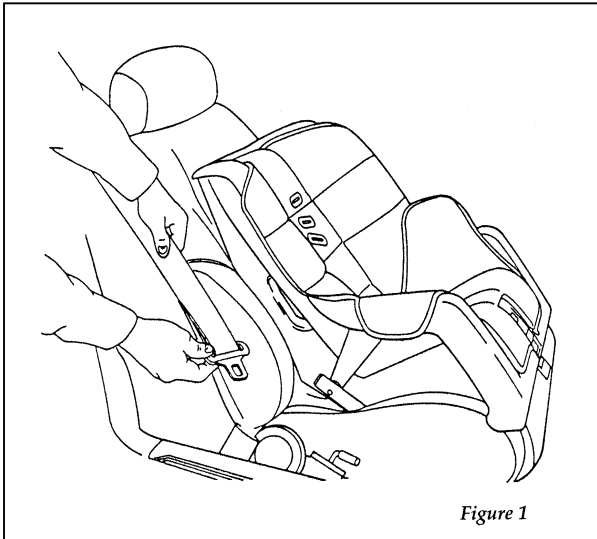

Figure 1
2. Pull down on shoulder belt, then grasp shoulder belt and lap belt together. See Figure 1.